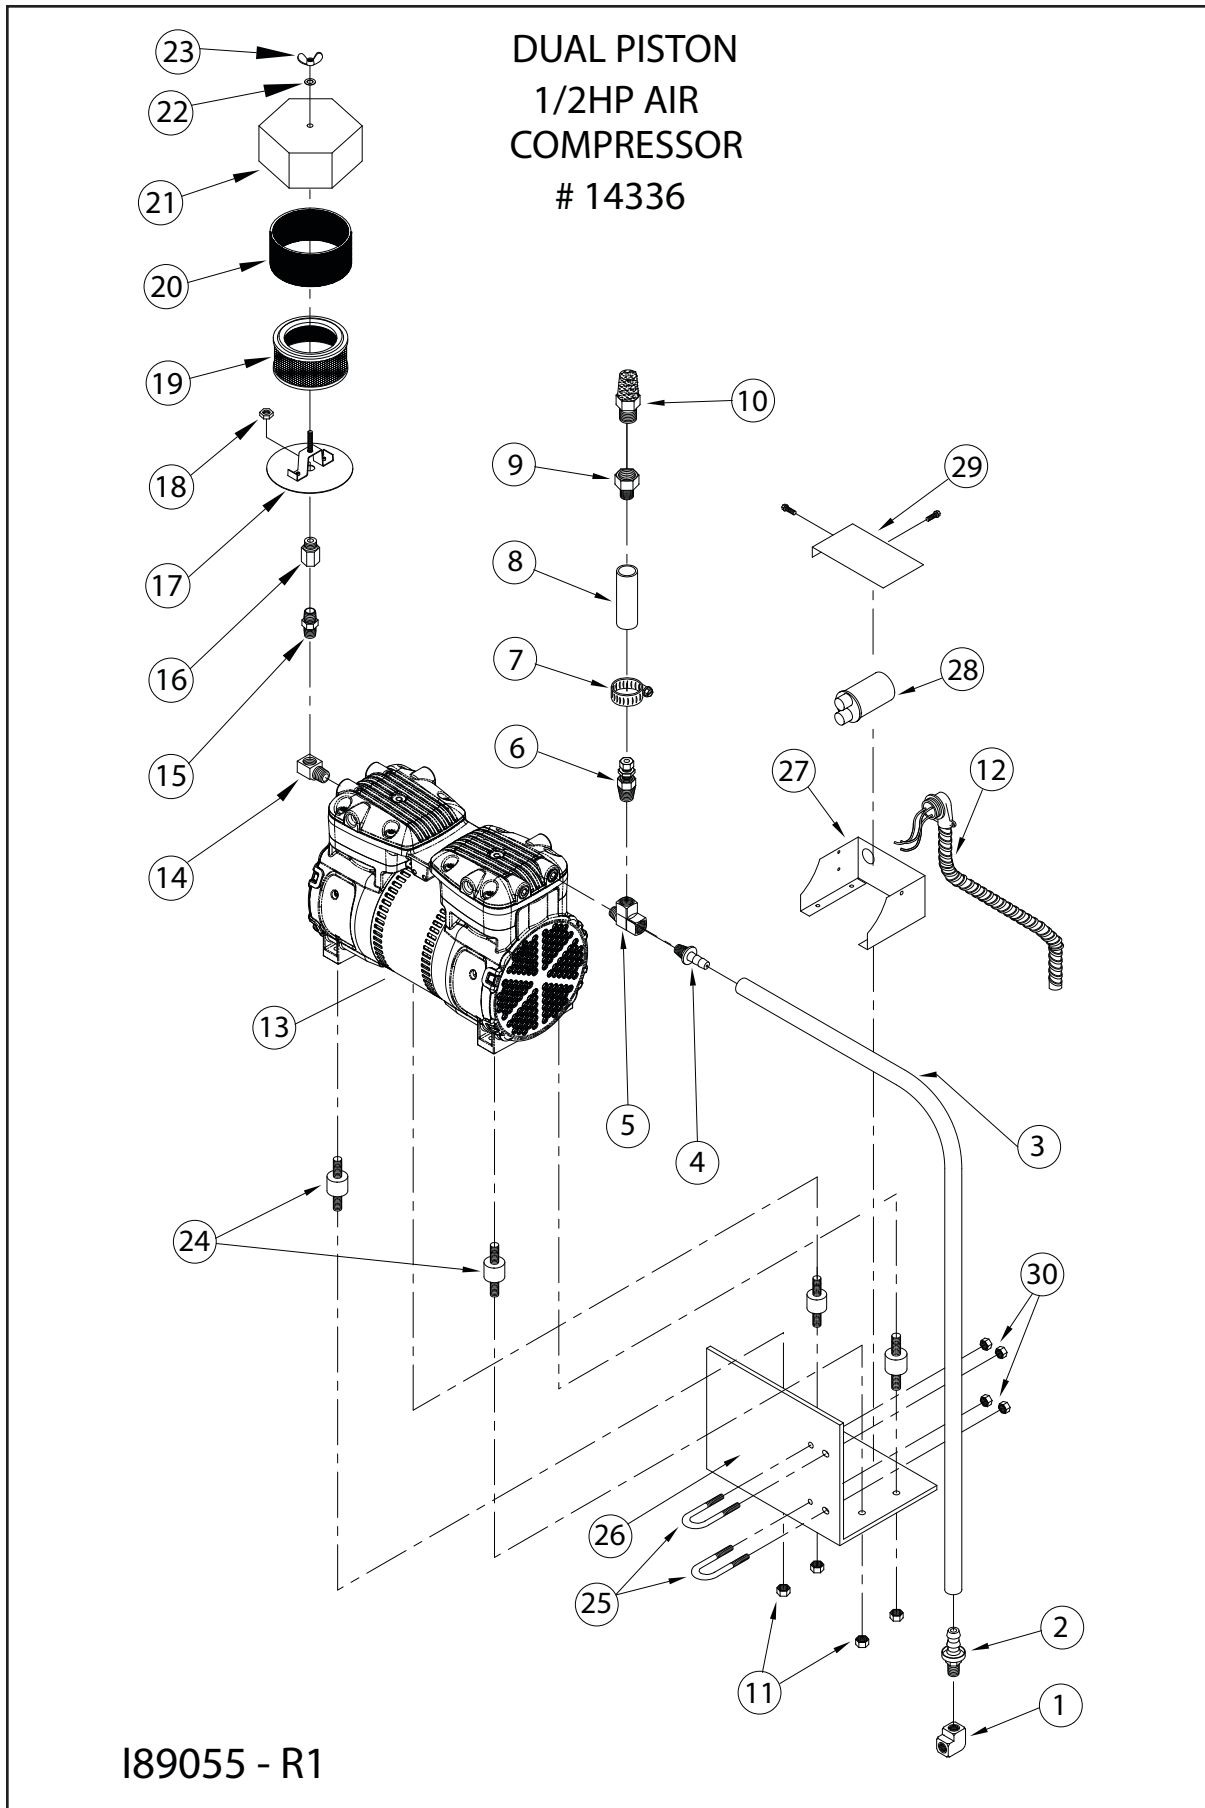

Figure 3A - Air Compressor Exploded View
1. Refer to Figure 3A.
1. Refer to Figures 3A and 3B.
1. Refer to Figure 3A and 3B.
1. Refer to Figures 3A and 3C.
1. Refer to Figure 3A and 3C.
1. Refer to Figures 3A/3D and your Furnace Operator's Manual for an overview of furnace assembly (*refer specifically to information on the installation of the mounting/stabilizer brackets and the all-thread rods*).
1. Refer to Figures 3A and 3D.